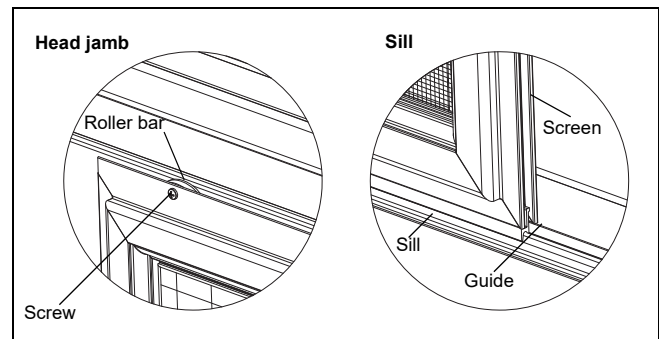

Figure 7
1. To remove screen, simply remove screws attaching screen to roller bar and lift off guide or remove entire screen assembly out by lifting the bottom rail guide off the sill screen guide and pull the entire assembly out of the head jamb track (reverse of "Installing the Screen Panel" section). See figure 7.